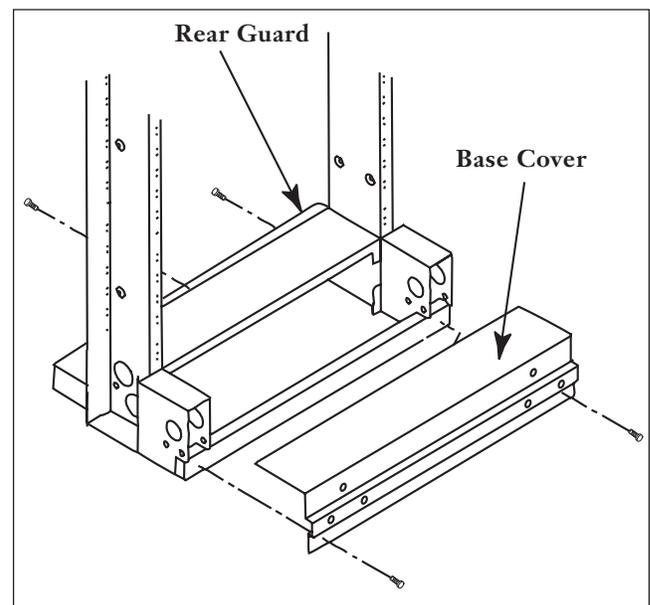

Figure 5
- 4.2 Remove the base cover from the base and save the screws (Figure 5).
- 4.7 Attach the base cover to the rack assembly as illustrated in Figure 5.